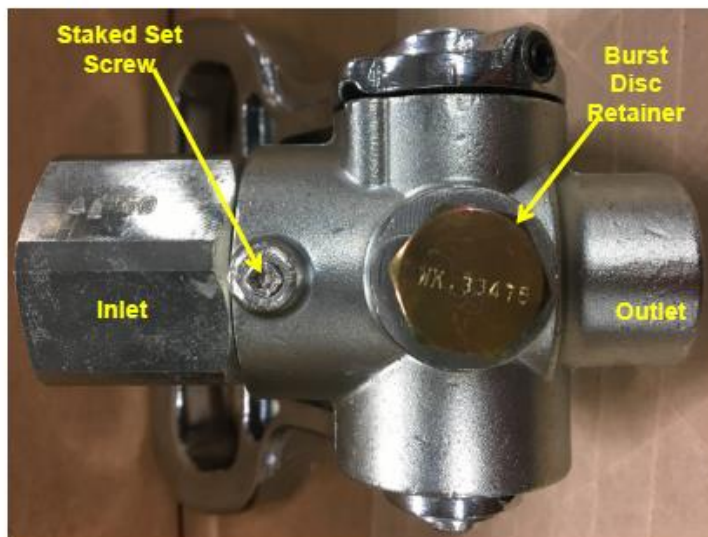

Figure 2: Horn-Valve Underside View (Horn removed from outlet for clarity only)
- c. Visually inspect the Horn-Valve assembly as a whole for signs of damage or tamper (see Figure 2)